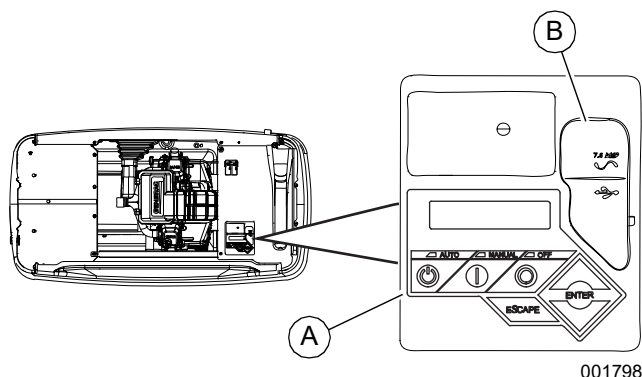

Figure 3-8. Generator Control Panel
See Figure 3-8. The control panel interface (A) is located under the enclosure lid. Verify both left and right side locks are unlocked before attempting to lift lid of enclosure. Open lid as directed in Opening the Lid.